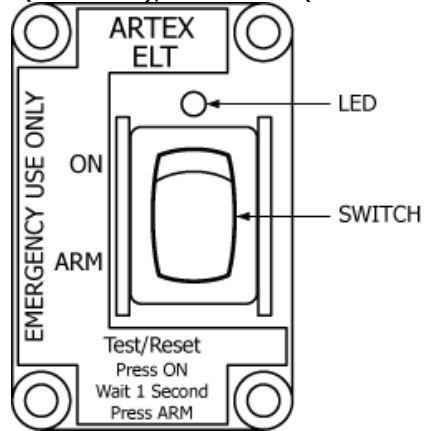

Figure 3 Cockpit Remote Switch
- 2) The cockpit-mounted remote switch assembly is comprised of an ELT status LED and control switch, which allows an operator to monitor ELT status and manually turn on the ELT (i.e., activate) for testing and reset (i.e., deactivate) the ELT. See Figure 3.